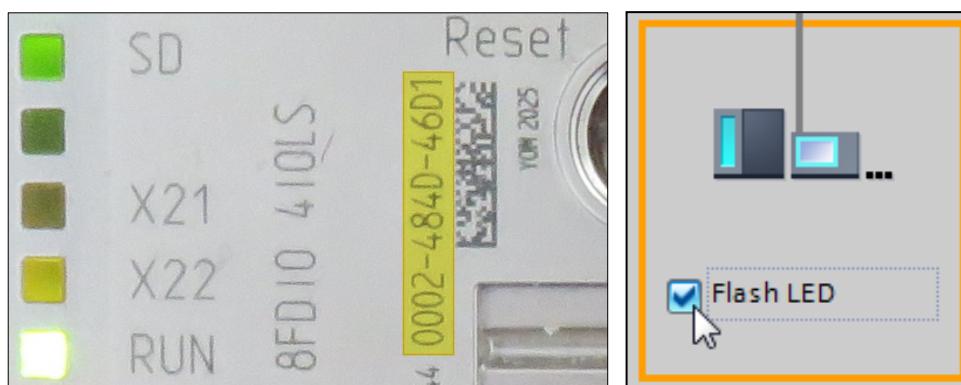

Figure 38: TIA Portal – Assign device name » MAC / Function »Flash LED« (Part 2, Identification)
- The PDP67 device, that is to be named, can be uniquely identified by MAC address and IP address. The “Devices MAC address” is lasered on the front of the fieldbus device to the left of the reset push-button (see left picture in Figure 38).